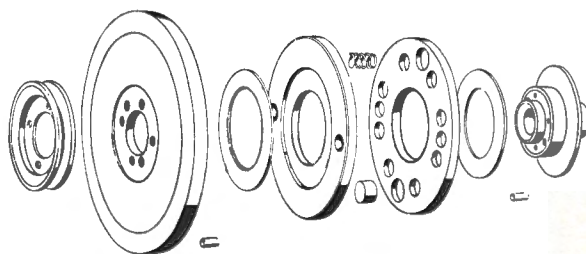

Fig. 03-10/5
6. Check all individual parts of the vibration damper (Fig. 03-10/5).
to be replaced (Fig. 03-10/3) use Hub and